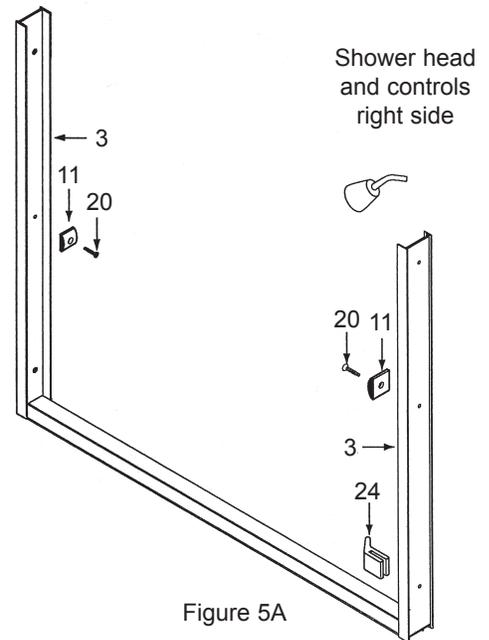
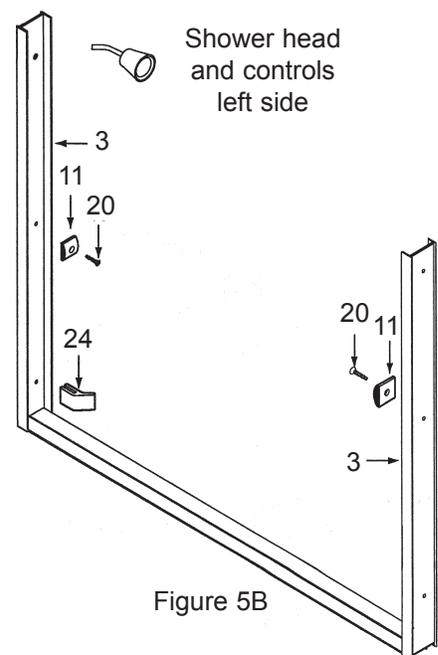

Figure 5A
Figure 5B
- A. In order to install the Panel Locator (#24) you must first determine which wall the shower head is on. See Figures 5A and 5B. If the shower head is on the right wall, refer to Figure 5A to position the Panel Locator (#24). If the shower head is on the left, refer to Figure 5B. Attach the Panel Locator (#24) to the edge of the Wall Jamb (#3) facing the inside of the shower, on the shower head side, as shown.